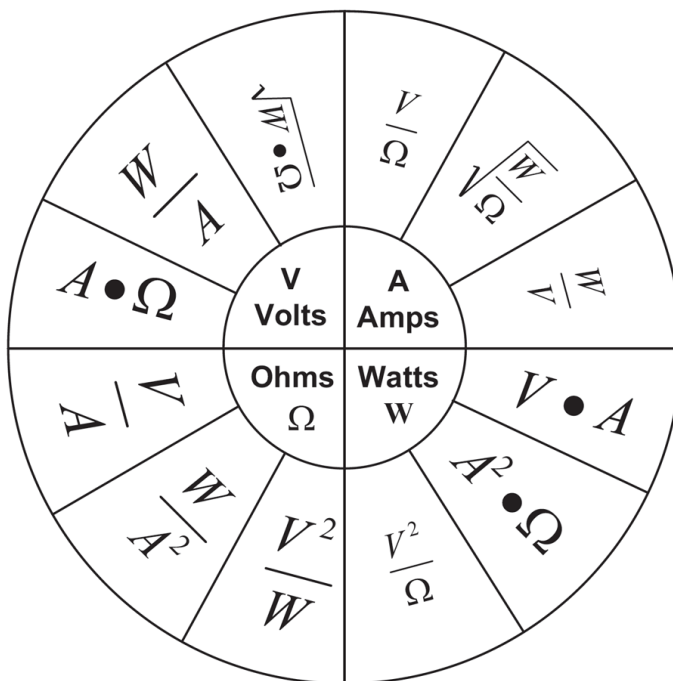

Figure 1: Ohm's Law pie chart
Ohm's law states that the amount of current flowing between two points in an electrical circuit is directly proportional to the voltage impressed across the two points and inversely proportional to the resistance between the points. Thus, the equation $I=E/R$ is the basic form of Ohm's law where the current I is in units of amperes (A), the Electro-motive Force (EMF) or difference of electrical potential E is in volts (V), and R is the circuit resistance given in ohms (Ω). Applying the standard equation relating electrical power to voltage and current ($P=V \cdot A$), cross multiplying and rearranging each of the variables results in the equations shown in the Ohm's law pie chart (see Fig 1) showing the various combinations of the four variables, I , V , Ω and W . Let's use Ohm's pie chart to determine the output voltage, current, and power of a $50\ \Omega$ amplifier operating under ideal conditions.